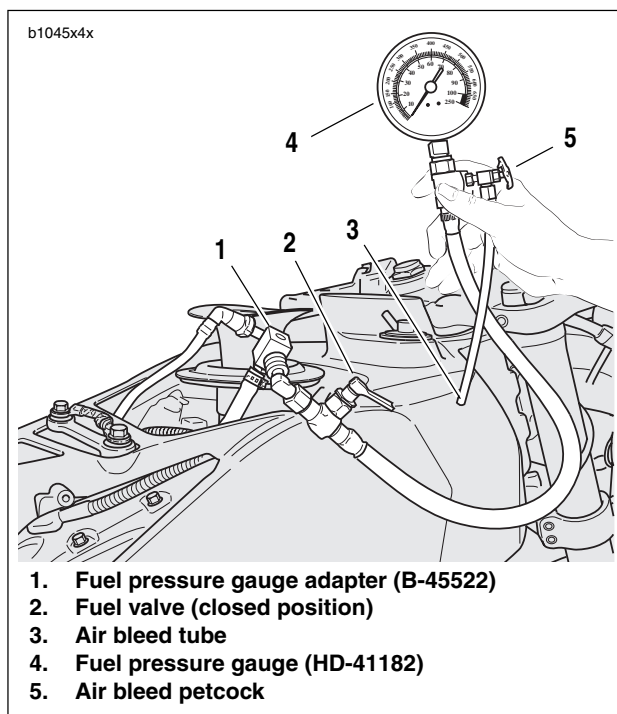

Figure 4-25. Fuel Pressure Gauge (Part No. HD-41182)
See Figure 4-25. Verify that fuel valve (2) and air bleed petcock (5) on the gauge are closed.
6. Attach FUEL PRESSURE GAUGE (Part No. HD-41182) (4) to fuel pressure gauge adapter (1).
8. See Figure 4-25. Pressurize the fuel system.
- b. Open fuel valve (2) on fuel pressure gauge to allow fuel to flow down the gauge hose.
- c. Position the air bleed tube (3) into proper container.
- d. Open and close the air bleed petcock (5) to purge the fuel pressure gauge and hose of air. Repeat this step several times until only solid fuel (without bubbles) flows from the air bleed tube.
10. See Figure 4-25. Turn engine off. Detach pressure gauge (4) from adapter (1).
- a. Open the air bleed petcock (5) to relieve fuel system pressure and purge the pressure gauge of gasoline.